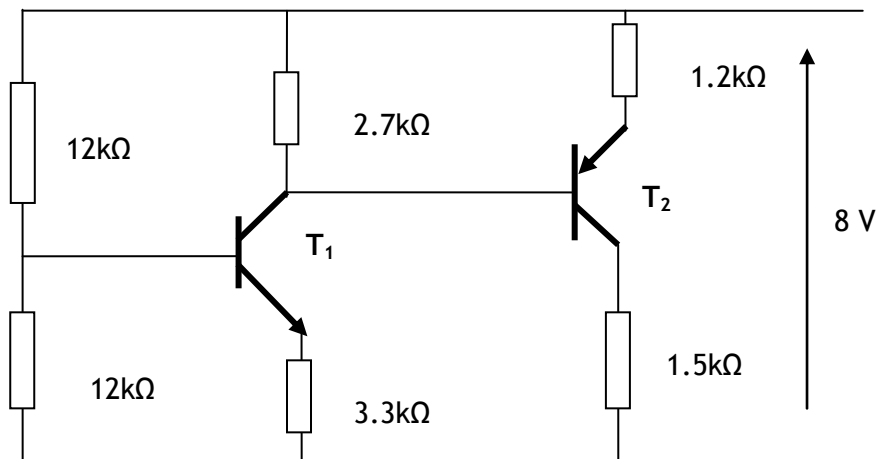

Fig Q3
- (a) the voltage across each element; (6)
- (b) the circuit current; (4)
- (c) the value to which the linear resistance must be changed to give equal voltages across the two elements; (4)
- (d) the circuit current for the condition in Q2(c). (2)
3. In the two-stage voltage amplifier shown in Fig Q3 both the npn and pnp transistors have high current gains. Transistor T_1 has a base-emitter volt drop of 0.7 V and transistor T_2 has a base-emitter volt drop of 0.3 V.